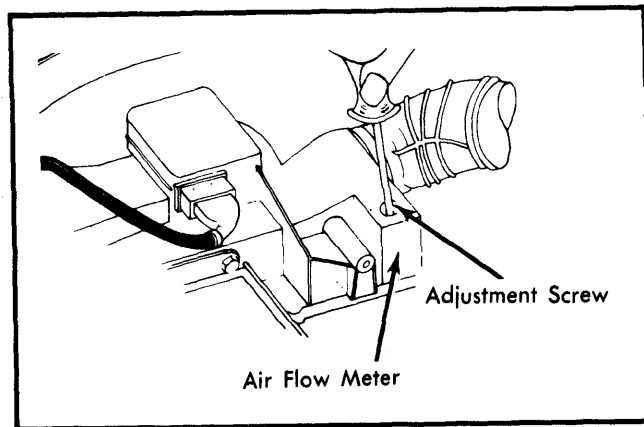

Fig. 5 Fuel Injection Mixture Adjustment
- 3) Connect CO meter to pipe tap in front of catalytic converter. Disconnect plug from oxygen sensor and ensure that neither side is grounded. Remove plug from airflow meter and adjust CO to 0.5-0.9%. See Fig. 5.
- 4) Ground control unit side of oxygen sensor connector. CO level should rise to at least 1.5%. Reconnect oxygen sensor and check for CO level of 0.3-0.6%. Remove test equipment and plug air flow meter screw. See Fig. 5.